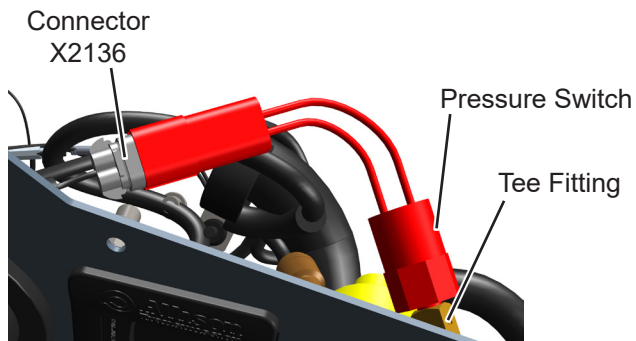

Figure 4
10. Disconnect pressure switch connector from cab harness connector X2136. See Figure 4.
11. Loosen and remove pressure switch from park brake valve signal line tee fitting. See Figure 4.